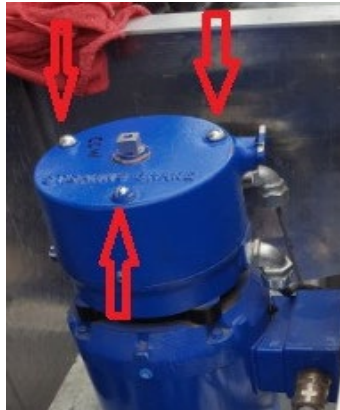

Figure 4-5: Cap-Nuts on Top of Brake Assembly
6. Remove the 3 cap-nuts on top of the brake assembly housing with a flat head screw driver. See Figure 4-5. **CAUTION: Do not lose the rubber sealing washers on each as they must be re-used on reinstallation of the cap-nuts.**